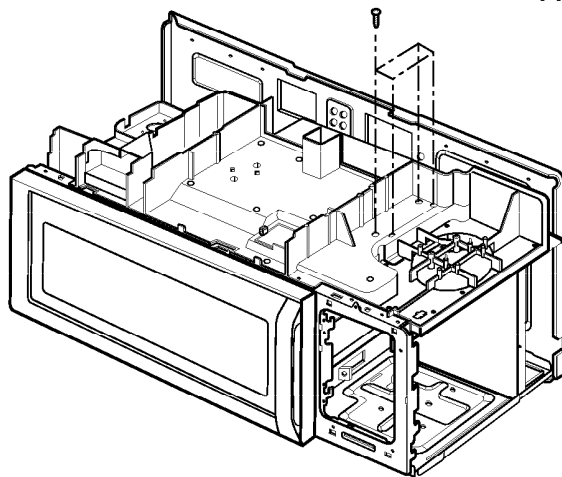

Figure 13
- (4) Remove four tap tite screws securing the magnetron to the wave guide. (Figure 13)
- (5) Remove the magnetron VERY CAREFULLY.